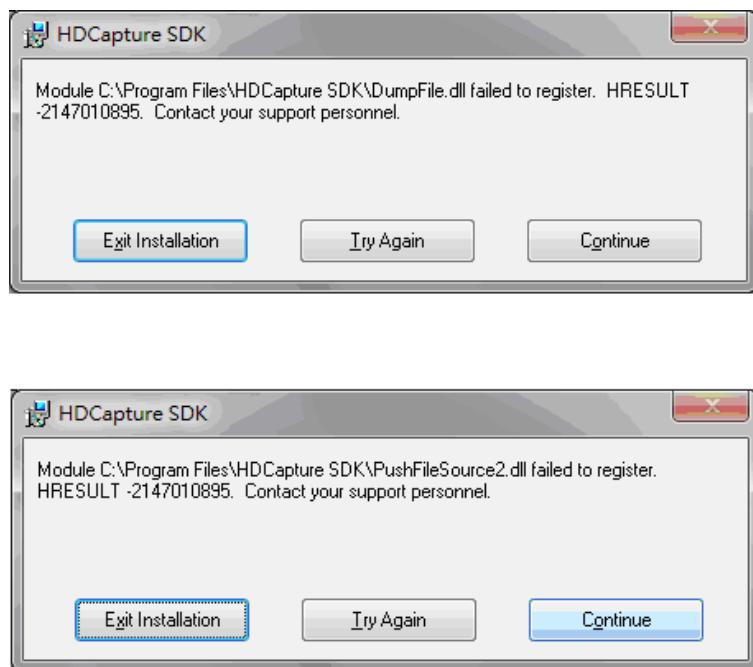

Figure 1-13: Installation Error Messages
Step 7: If an error happens during the installation (as shown in **Figure 1-13**), click **Continue** to continue the installation.